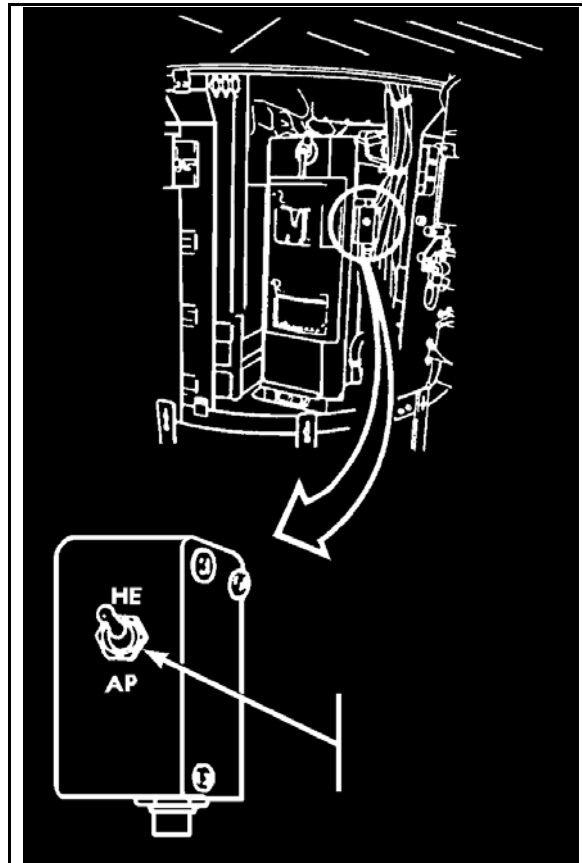

Figure 7. HE-AP selector switch.
14. Move the HE-AP selector switch to the correct position for the ammunition loaded (Figure 7).